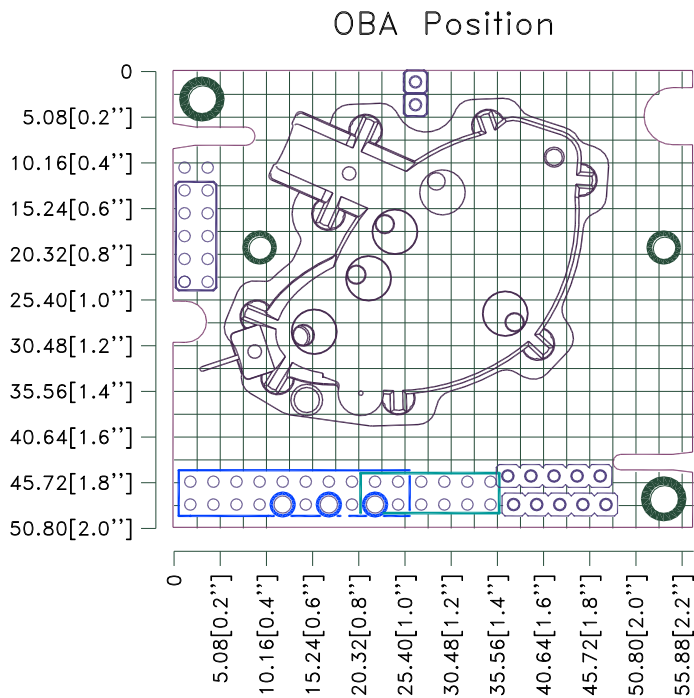

Figure 2. CO2 Engine® K30 FR OBA position.
The table below specifies what terminals and I/O options are available in the general **K30** platform (see also the layout picture Fig. 2). Please note, however, that in the **CO2 Engine® K30 FR** default configuration, only OUT1, OUT2, Din1, Din2 and Status have any pre-programmed functions. These are described in the chapter “Default Configuration”.
The modules are factory calibrated and ready for use directly after power up. There are several alternative ways to connect the *CO2 Engine® K30 FR* to a host system (see also figure 2):
- The two screw points in the upper left corner (having the IDC and edge connectors faced downwards, as in Figure 2) are connected to the *analogue* ground. They are the preferred choice for connection to some EMI shield, if so is required. This is normally necessary only if the application is such that large EMFs are foreseen. If this option is being used, precaution must be taken so as to exclude any power supply currents! Sensor reading instability is an indication of the need for shielding, or of improper enclosure system groundings.